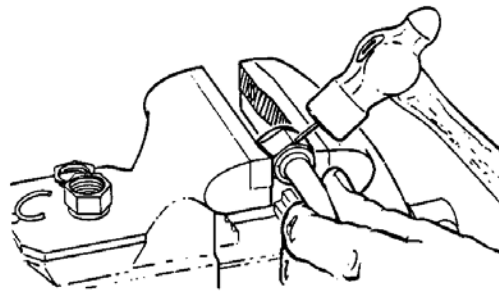

Figure 10: Installation of nut and retaining wire
- c. Install new nut and drive in new retaining wire (**Figure 10**).
3. Backed-out wires on wired-on nuts may be driven back into place and set with a punch (**Figures 10 and 11**).